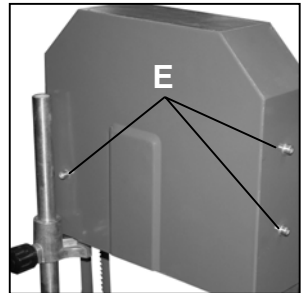

Figure 4
Remove the socket screws on the side and back of the Cover (E) (Figure 4). Once removed, the cover will slip up and off, exposing the Drive Wheel and saw blade.